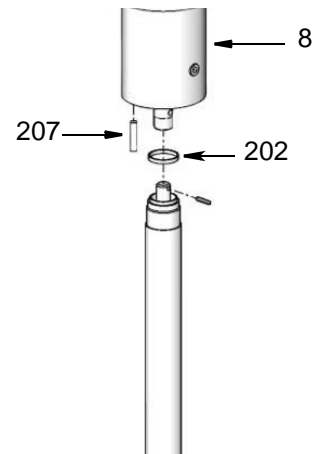

FIG. 29
2. Replace nylon pellet (207) in threads on bottom of pump adapter (8) (FIG. 29).
3. Install new gasket (202) in pump adapter (8) (FIG. 29).
- Screw connecting rod (107) into displacement rod (35) until holes align. Install cotter pin (204) through holes.